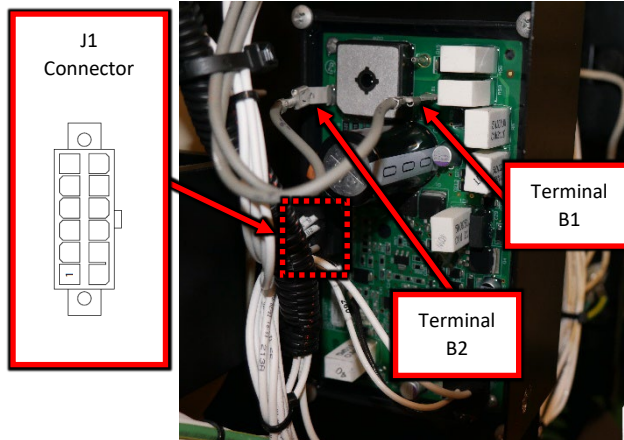

Figure F.3
A.4. Perform the measurements identified in Test Table 1 below, refer to Figure F.3 for test point locations.
A.8. Perform the measurements identified in Test Table 2 below, refer to Figure F.3 for test point locations.